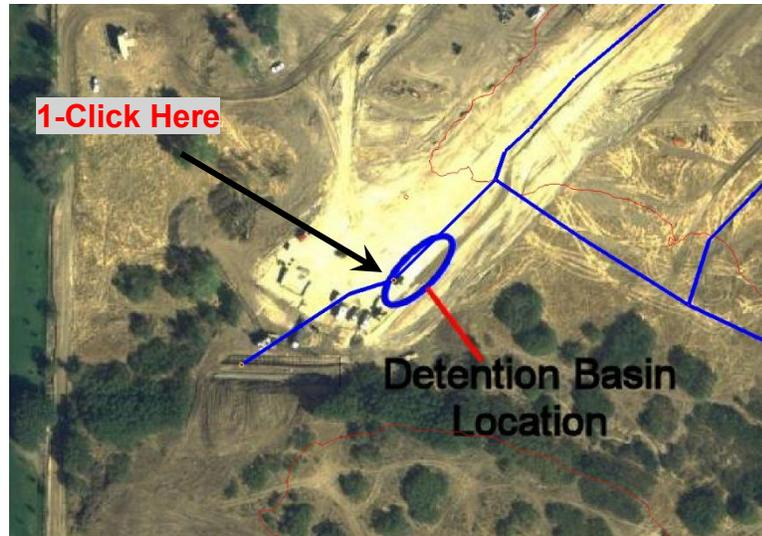

Figure 4 Node at downstream end of detention basin location
1. Using the **Select Feature Point/Node**  tool, double-click on the node at the downstream end of the detention basin location shown in the background image to open the *Drainage Feature Point Type* dialog. (See Figure 4)